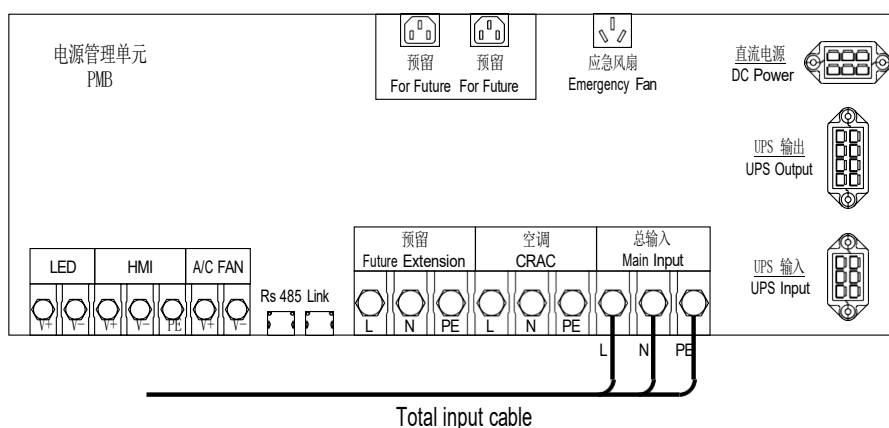

Figure 2-32 Connecting the Total input cables
2. Open the PMB rear cover and connect the crimped cable to the total input position of the PMB terminal block, as shown in Figure 2-32.